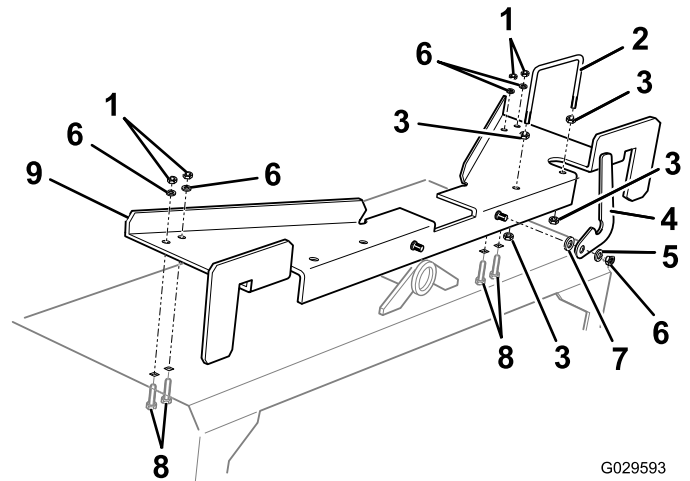

Figure 9
6. Assemble the wing-arm latch plates for cutting units 1 and 7 as follows (Figure 9):